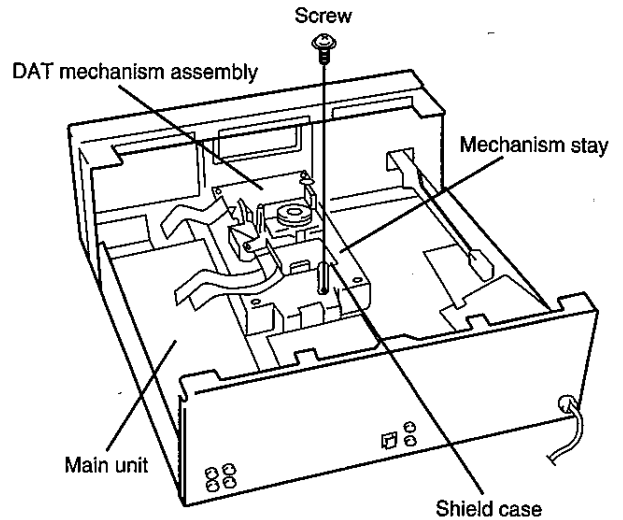

Figure 3
3. Place the DAT mechanism assembly on the mechanism stay so that the motor pulley at the bottom surface of the assembly does not touch anything and fasten the DAT mechanism assembly shield case with the screw as in Figure 3.